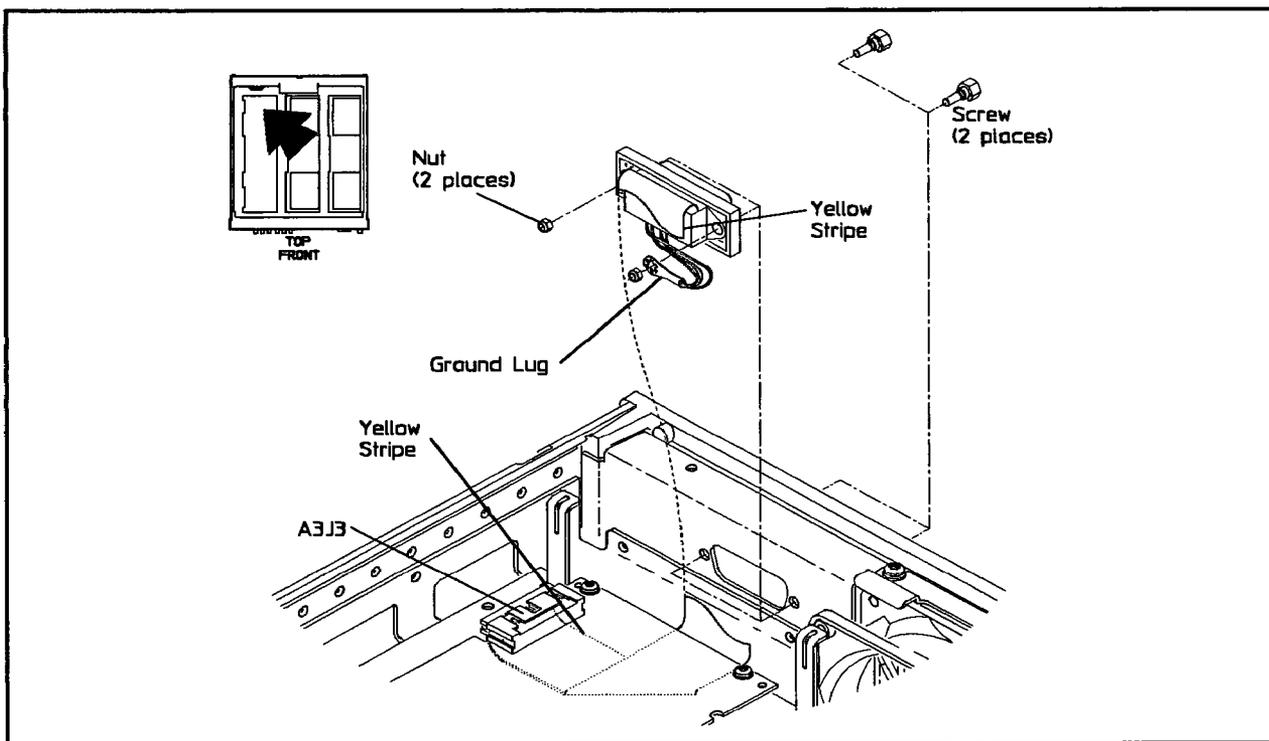

Figure 5-38. HP-IB Cable Removal
3. Using a 7.5 mm hex nut driver, remove the two nuts on the rear panel at the HP-IB connector. See Figure 5-38.
6. Disconnect the HP-IB cable interface from the microprocessor board assembly at A3J3. See Figure 5-38.
- Be sure to properly position the ground lug when replacing the screws. See Figure 5-38.
- Be sure to route the HP-IB cable interface properly as shown in Figure 5-38.